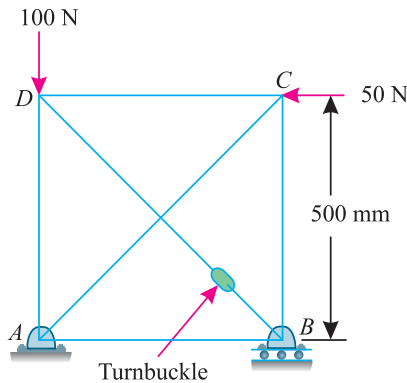

Fig. 16.22.
**Example 16.12.** A square pin-jointed frame ABCD with 500 mm side is subjected to a force of 100 N at D and 50 N at C as shown in Fig. 16.22. All the pins are smooth and the bar weights are neglected.